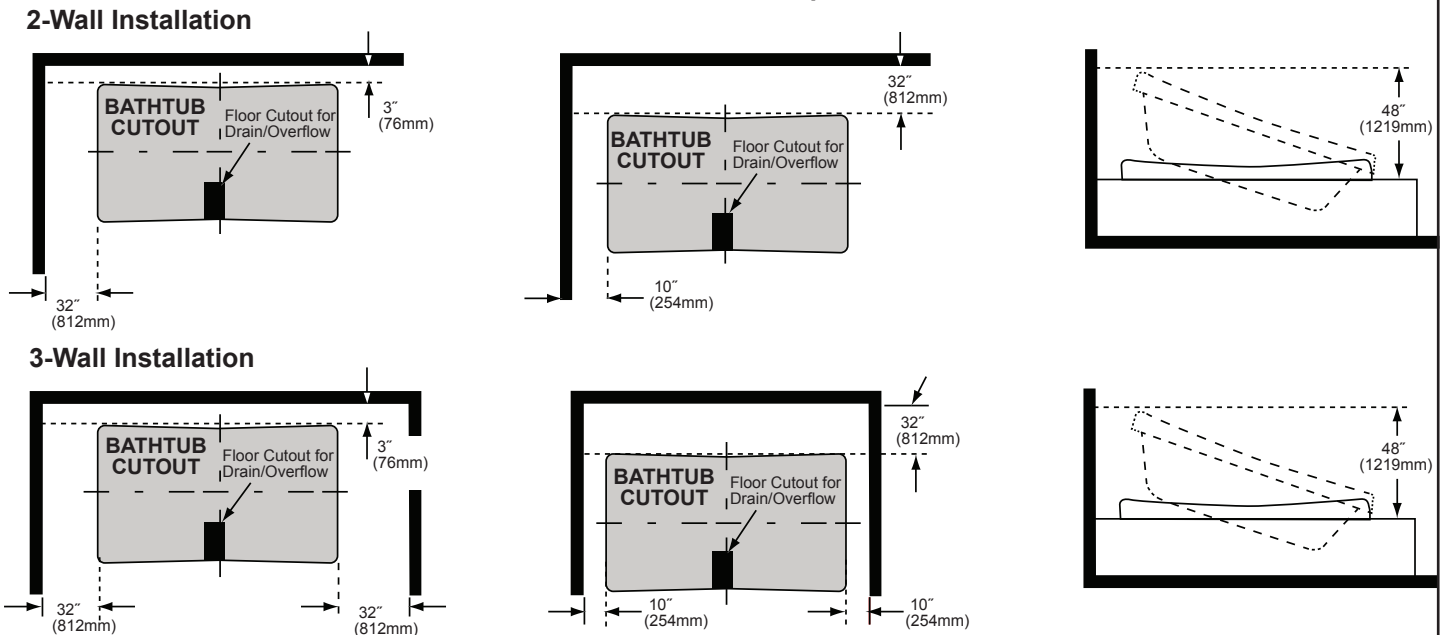

Figure 3
- To ensure the installer has space to maneuver and install the bathtub, allow adequate wall and ceiling clearance (Figure 3).